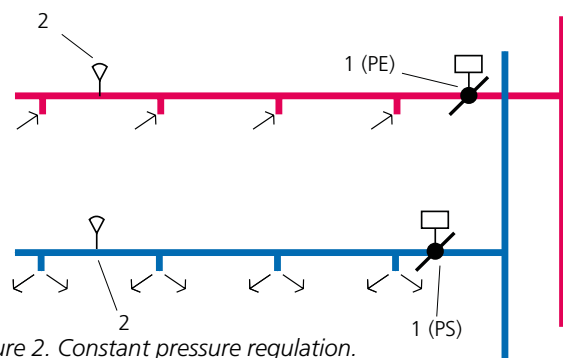

Figure 2. Constant pressure regulation.
- WISE DPS, duct pressure sensor to retain constant pressure in the duct system, wired Modbus communications, see figure 2.